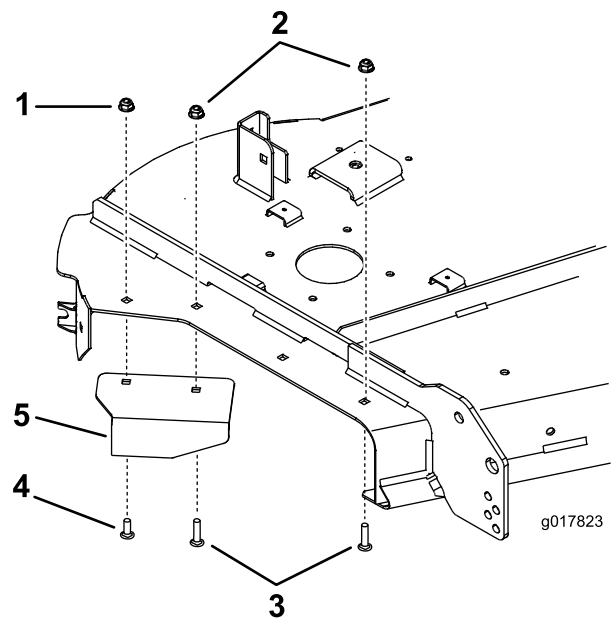

Figure 26
2. Install the existing baffle with the existing bolts and nuts after removing the plate assembly (Figure 26).